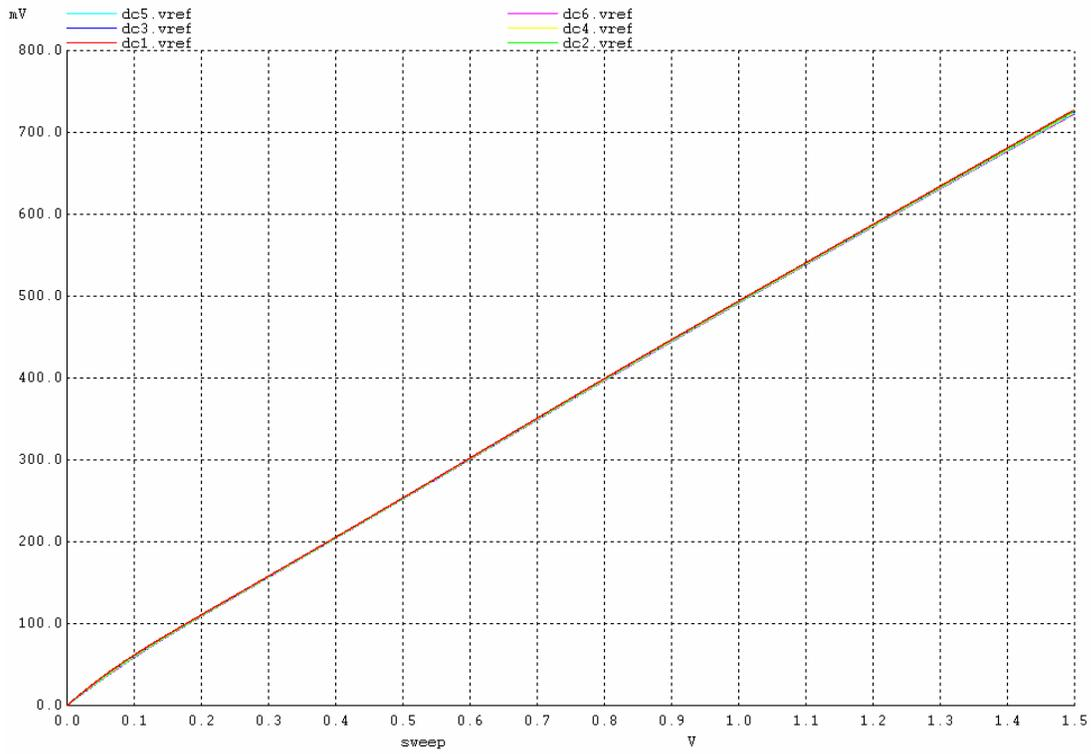

Figure 2.
Using the value of the width of the NMOS calculated above (80) the reference voltage is off by 50uV. Therefore some tweaking of the width of the NMOS was in order. Changing this width to 50 gives the desired reference voltage. The netlist and the plot of the behavior of the MOSFET only reference with variations in VDD and Temperature can be seen below in figure 2.